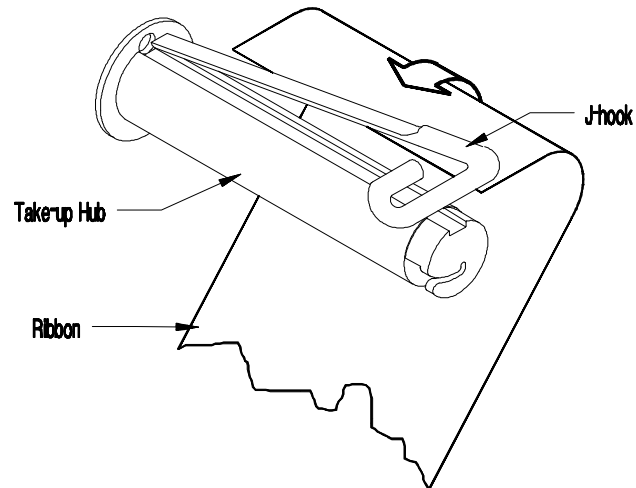

Figure 2-11 Ribbon Installation showing J-hook
8. Slide the J-hook back into place as shown in Figure 2-11. While holding the ribbon Take-Up Hub, rotate the J-hook counter-clockwise to latch.